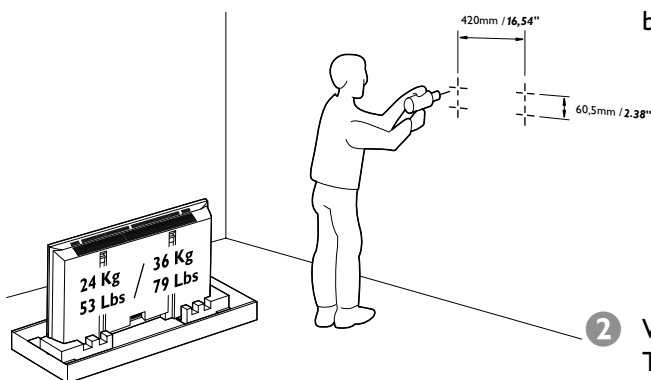

fig. 3
- 3 Remove the Wall Bracket, and using a 13/64" wood drill bit, drill the four holes. (fig. 3)**